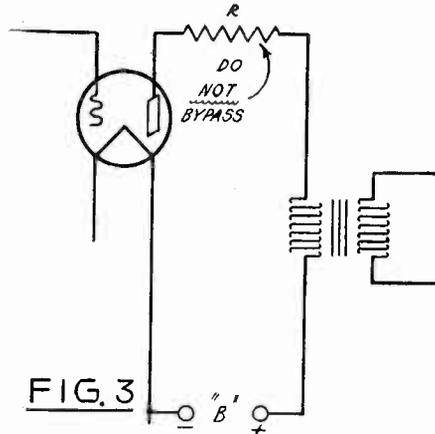

Fig. 3: A simple hum cure.
If regeneration is controlled by a variable resistance, the troubles of the designer are smaller. He may then use the circuit of Fig. 3 with some confidence that nothing violent will take place.
**A** PARTICULARLY neat suggestion has come to me from L. W. Hatry, whom I have quoted before. It is that an objectionable hum can be reduced materially by simply making the audio system poorer at the low frequencies in the extremely simple manner shown in Fig. 3. The effect will take place especially in transformers which are initially a bit weak at that end and therefore is most useful when applied to sets whose makers have already fudged the audio system a bit to reduce hum which they did not keep out otherwise.